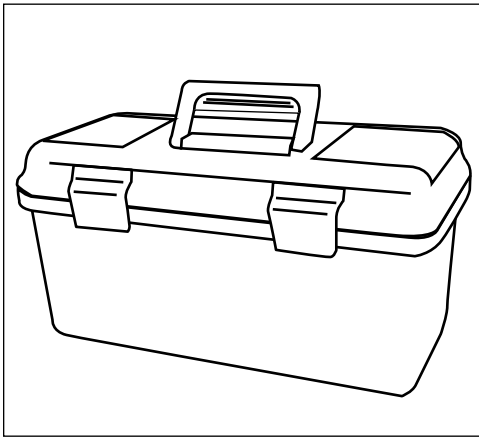

Figure 3-3:
- ✓ **Toolbox:** A toolbox or tackle box is a great way to keep your tools safe and to make them accessible. It need not be expensive, just something that can house your many tools in any orderly fashion. I use a plastic toolbox, shown in Figure 3-3, that I bought from a local hardware store. I use this to keep pens, scissors, brushes, and other bits and pieces in. I like the type that opens out to reveal several trays. These trays let you keep all your different tools separate and organized.